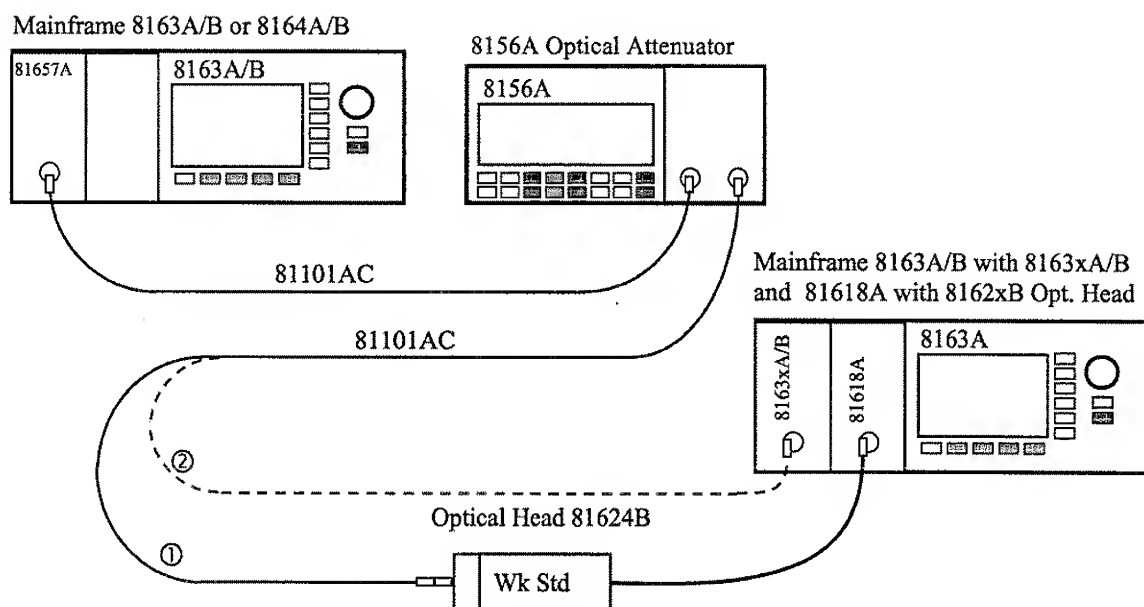

Figure 3 Accuracy Test Setup
- 2 Connect the equipment as shown in Figure 3. Ensure that the cables to and from the attenuator are fixed on the table and that both the optical head and the DUT are close together so that minimum cable movement is required when connecting the cable to the head or to the DUT.